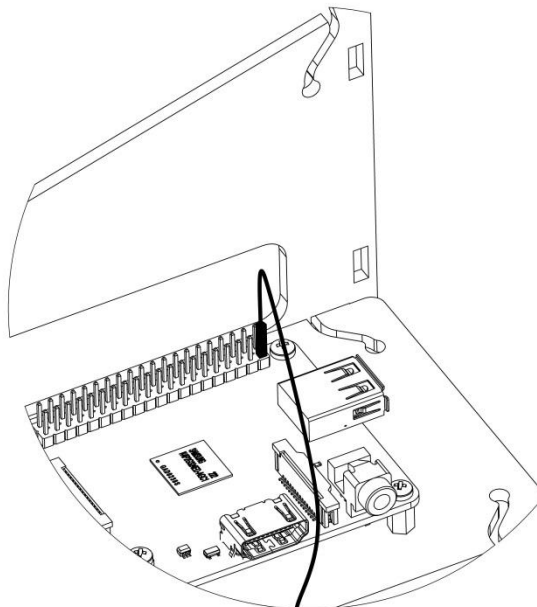

Figure 7
- 12) Fit the free end of the grounding wire to the **back right, inside pin** on the GPIO header, ensuring it is properly located as shown in Figure 7.